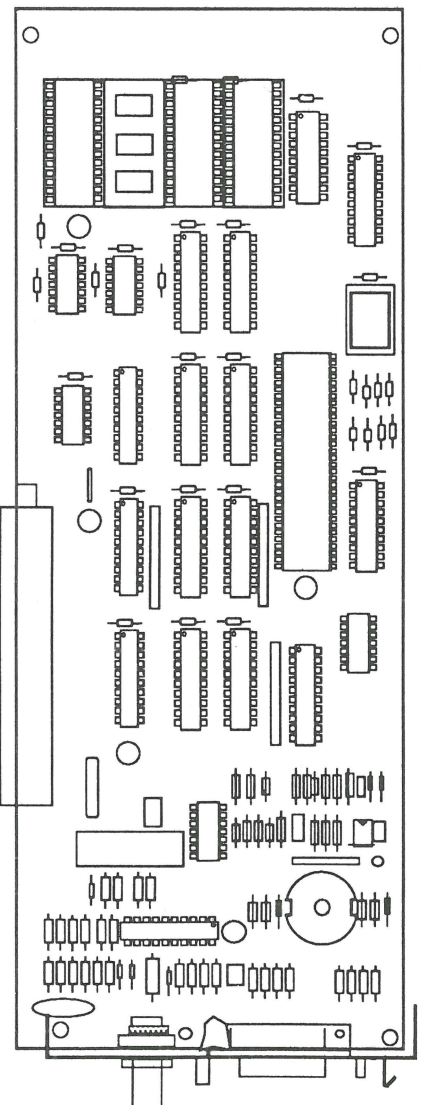

FIGURE 2
IPL.3 EtherTalk NB Card (Figure 2)
□ ETHERTALK NB CARD (Figure 2)